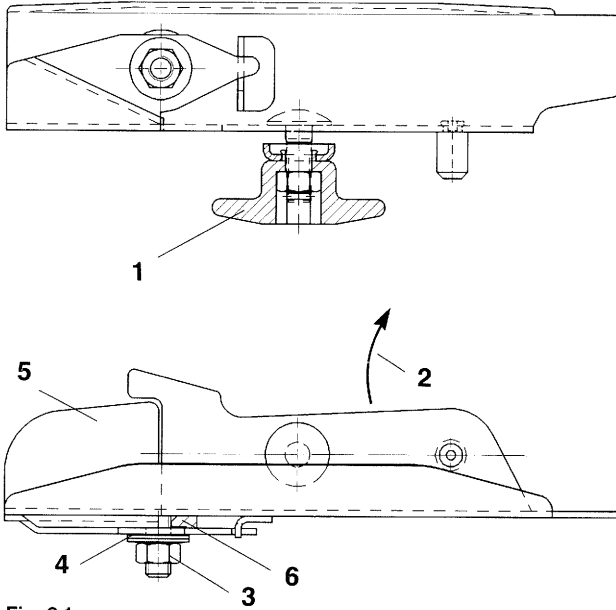

Fig. 9.1
- Undo the bolts (fig. 9.1/1) and exchange vane.
Ensure correct mounting of the vanes, open side of the U-shaped vane shows into spinning direction (Fig. 9.1/2).
- Undo self securing nut (brass CuZn) (Fig. 9.1/3) and remove including dished washers (fig. 9.1/4).
- Exchange swivel blades (Fig. 9.1/5).
**Mind the plastic washer (Fig. 9.1/6) between the main spreading vane and the swivel blade.**